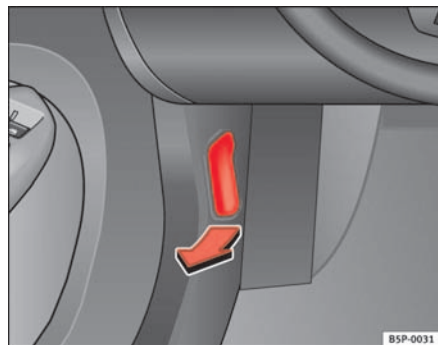

Fig. 157 Detail of the foot well: The release lever for the bonnet is located in the driver side foot well
- To release the bonnet, pull the lever under the dashboard ⇒ **fig. 157** in the direction indicated (arrow). The bonnet will be released by a spring action ⇒ **!**.